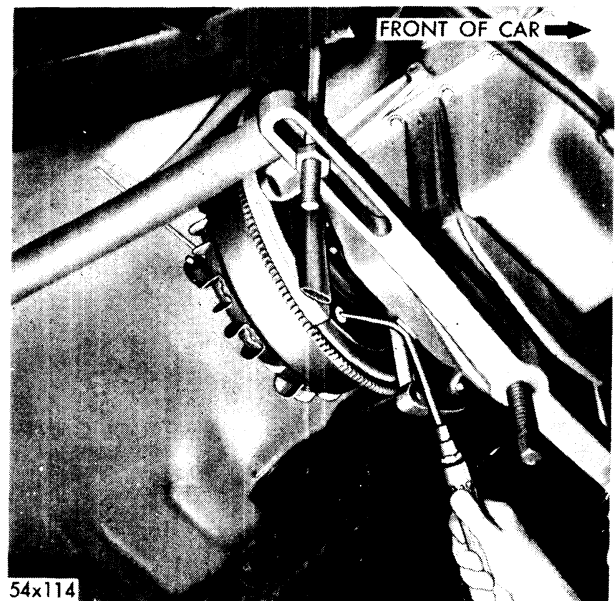

Fig. 67—Heating Torque Converter to Correct Run-Out
- (1) Mark the position of the hub low spot as accurately as possible on the impeller shell. Rotate the converter so this mark is directly down.
- (2) Remove the dust shield from the front of the adapter plate. Using a piece of chalk, mark the front cover directly opposite the hub low spot previously marked on the impeller shell. The subsequent heating operation can now be done through the opening in the adapter plate. (Refer to Fig. 67.)
- (3) The size of the spot to be heated is governed by the magnitude of hub runout and is usually about $\frac{1}{2}$ inch diameter for .008 inch total indicator reading. Using an acetylene torch, containing a No. 3 tip and set to maximum heat, apply it to the selected spot until it becomes a dull red. Rapid heating of a local area is essential and, if the torch is adjusted properly, the spot will become red within a few seconds.